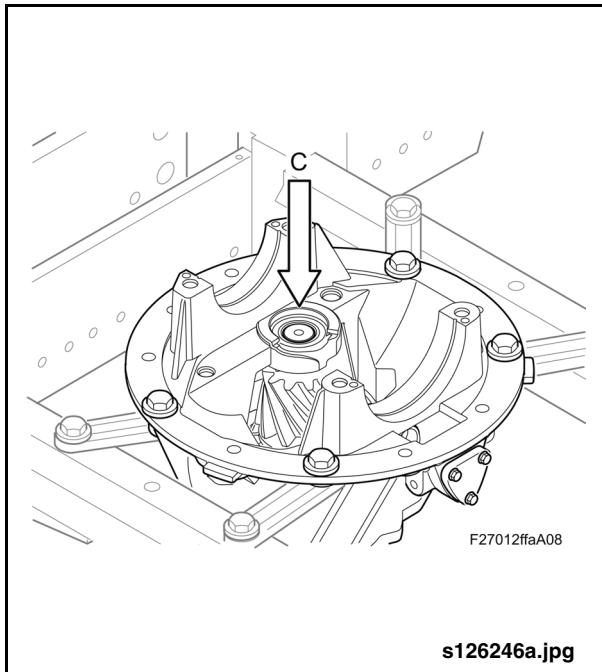

Fig. 2-86: Dimension "C"
5. Record the dimension stamped on the end face of the pinion gear as Dimension "C". See "Fig. 2-86: Dimension "C"" on page 69.